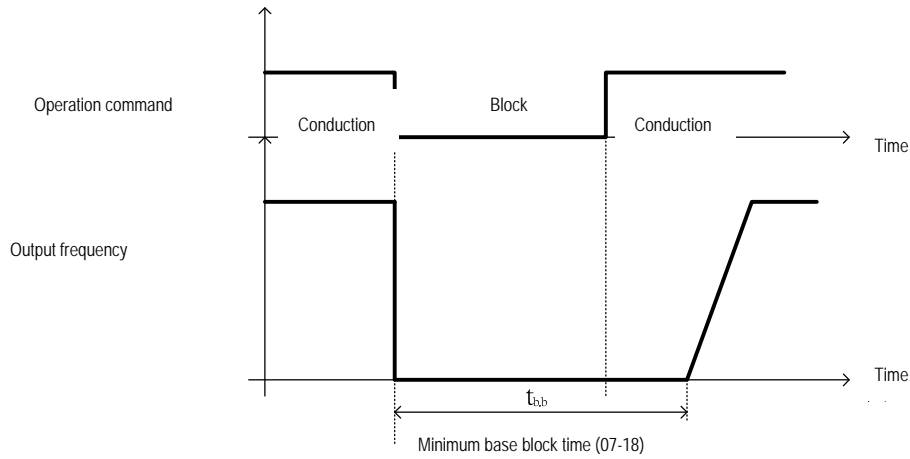

Figure 4.3.59 Coast to stop
- . Please refer to Figure 4.3.59.